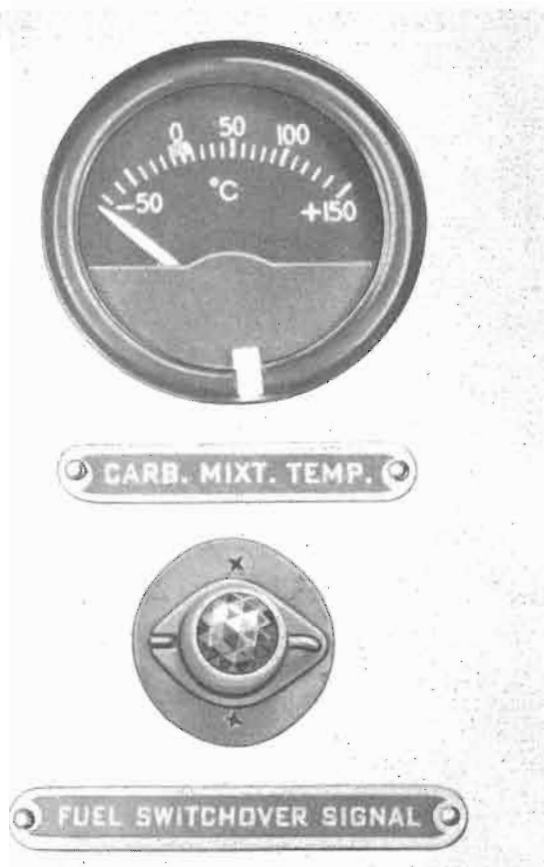

Figure 168 — Carburetor Mixture Temperature Gage and Fuel Signal
b. FUEL SWITCH-OVER SIGNAL.—(See figure 168.)—A type C-2 fuel switch-over signal assembly is installed on the lower left forward side of the fire wall. This unit operates a fuel signal lamp assembly which is installed on the right side of the instrument panel in the front cockpit. When the carburetor fuel pressure is above 3 pounds per square inch (plus or minus $\frac{1}{4}$ pound per square inch), enough pressure is exerted on the bellows and the spring within the signal assembly to maintain an open circuit. Upon reduction of the pressure, the bellows extend, allowing the electrical contacts which are located in a separate compartment to complete the circuit and operate the signal lamp. When the fuel supply in the compartment from which the engine is being operated is exhausted, the fuel pressure will drop and cause the signal lamp to operate for approximately 10 seconds before engine failure. Also, when hand fuel pump operation is insufficient to maintain the required fuel pressure, the signal will operate.